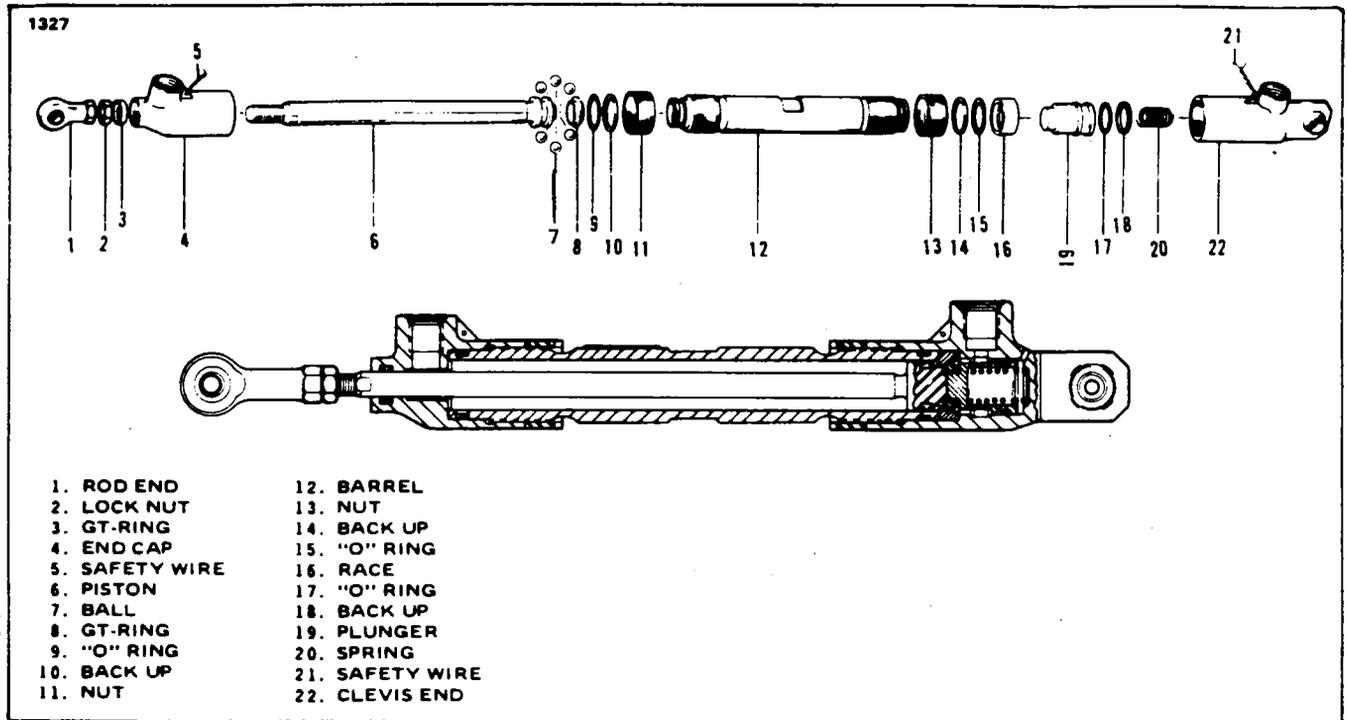

Figure 32-12. Gear Door Actuating Cylinder (Wiebel Tool WTC 2114-1)
**DISASSEMBLY OF GEAR DOOR ACTUATING CYLINDER. (Refer to Figure 32-12.)**
**CLEANING, INSPECTION AND REPAIR OF GEAR DOOR ACTUATING CYLINDER.** (Refer to Figure 32-12.)
**ASSEMBLY OF GEAR DOOR ACTUATING CYLINDER.** (Refer to Figure 32-12.)